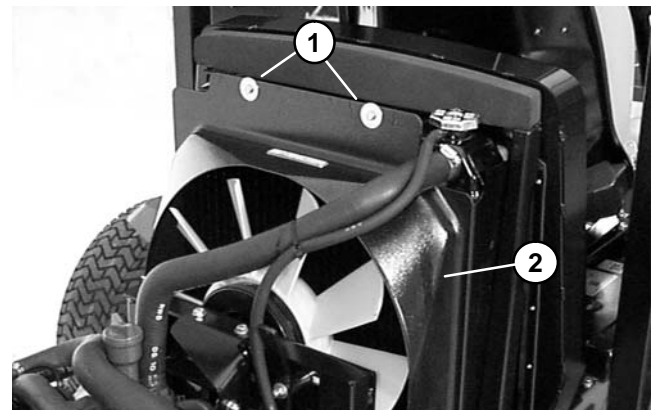

Figure 32
10. Remove four locknuts, cap screws, and flat washers securing the fan shroud to the radiator (Fig. 32).
6. Secure fan shroud to the radiator with four cap screws, flat washers, and locknuts (Fig. 32).